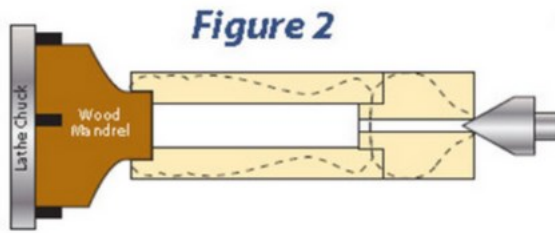

Figure 2
Mount a piece of hard wood in your lathe chuck and create a wooden mandrel that fits the base of the mill blank (see figure 2).
2. Mount the blank between centers of the wooden mandrel and the live center (see figure 2). Tighten between centers and make sure that it is secured to turn safely.